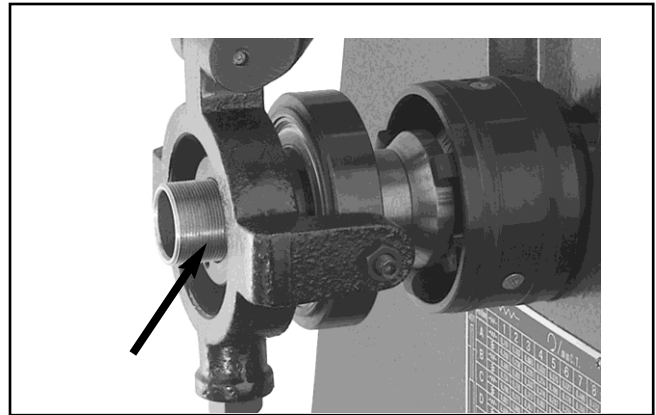

Figure 16. Location to rotate draw tube to remove or replace 5-C collets.
3. Rotate the draw tube counter-clockwise at the end of the collet closer, as shown in **Figure 16**, to unthread the collet.
5. Rotate the draw tube clockwise at the end of the collet closer to engage the new collet threads. 6. Engage the hub locking pin back into place as shown in **Figure 16**.